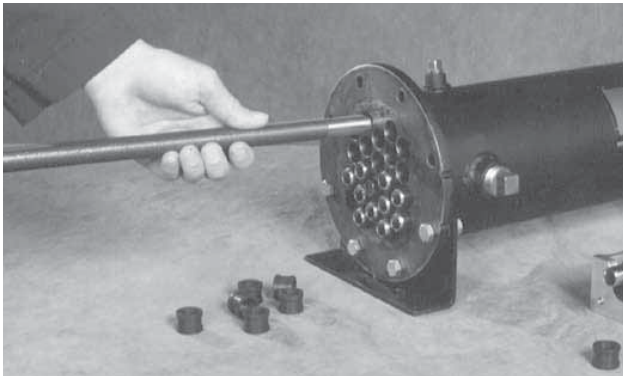

Fig. 4 Short end
1. Wipe out the long (L) end header plate holes with a small amount of cleaning solvent and inspect each for damage.
4. By hand, push the long end of each tube through the short (S) end header plate until the tube just contacts the long end seal. Repeat for each tube (see Fig. 4).